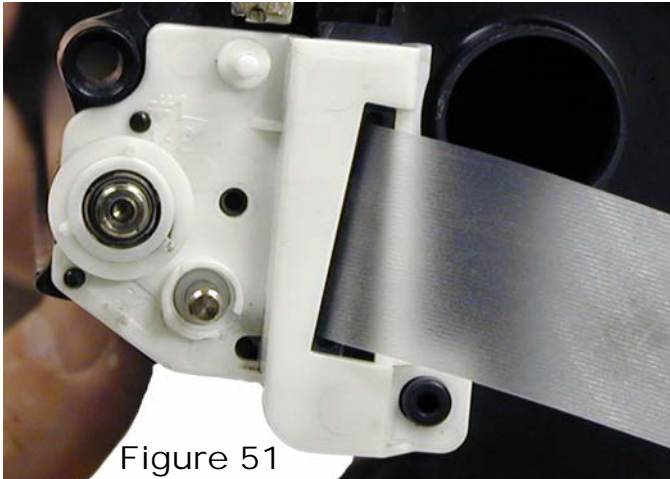

Figure 51
45) Install the bearing onto the developer roller shaft of the fill plug side. See **Figure 51**